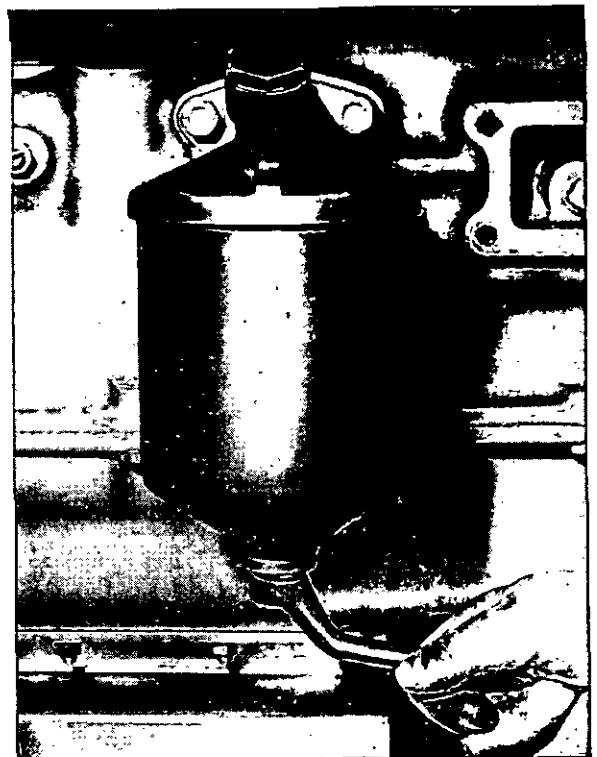

Fig. K.10. Unscrewing Filter Bowl Securing Bolt.
1. To dismantle the filter, see Figs. K.10 and K.11.